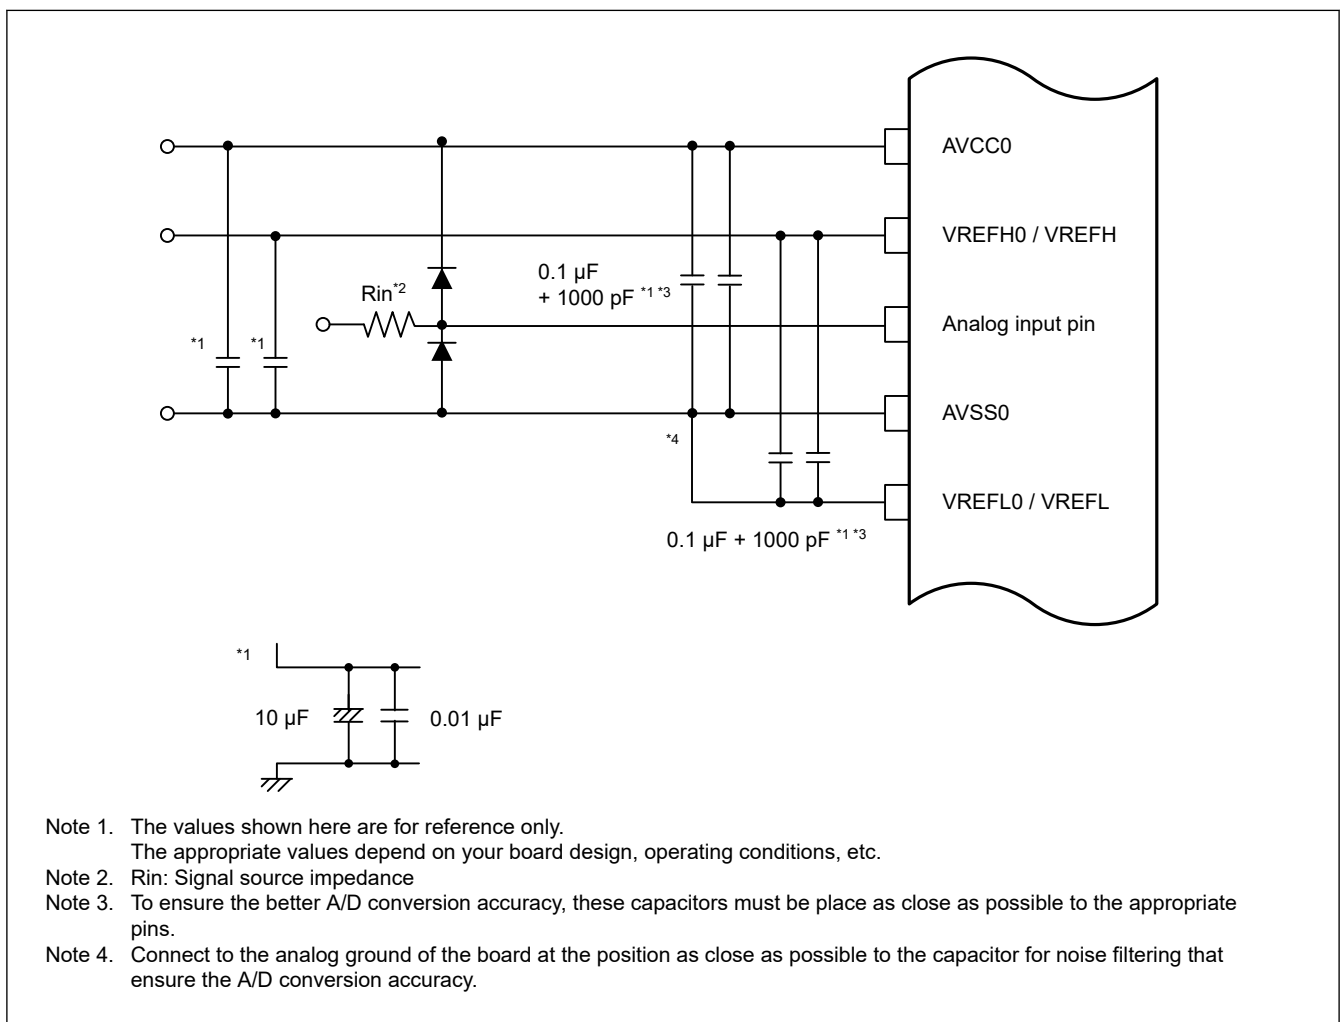

Figure 52.66 Example of protection circuit and noise prevention
An example of a protection circuit is shown in Figure 52.66.
- Place a capacitor for noise filters between analog power supply pin and the ground pin and between analog reference voltage supply pin and the ground pin close to the pin and connect them. Also, connect AVSS0, VREFL0 and VREFL pins to the analog ground on the board as close to the pins as possible. An example of connection is shown in Figure 52.66.